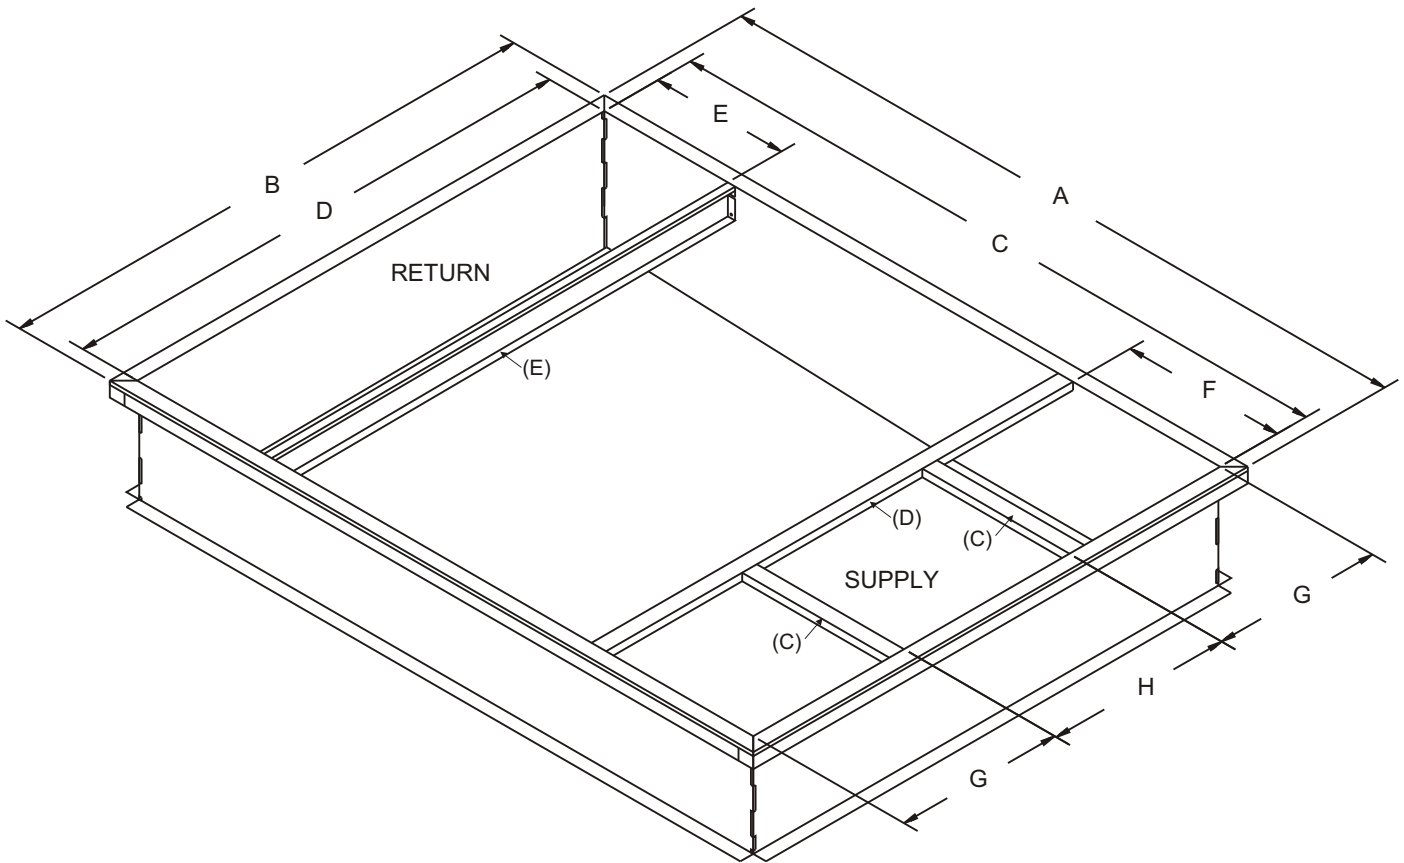

Figure 6
Install the vertical duct supports (D) as shown in Figure 6 with opening over the desired duct location.
Install the horizontal duct supports (C) as shown in Figure 6.
Install the vertical duct supports (E) as shown in Figure 6